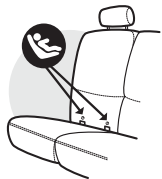

Figure 31
- **UAS Lower Anchors:** If not readily visible, the UAS lower anchors may be noted by a symbol located near the crease between the vehicle seat back and vehicle seat cushion, as shown in **Figure 31**.